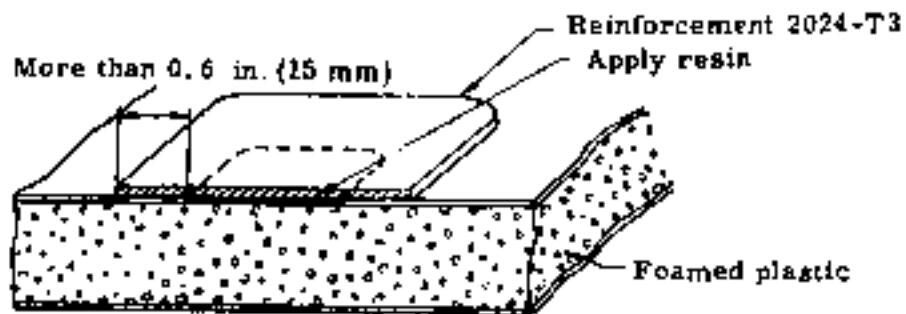

Fig 2-50
- (5) When peeling has taken place between the foamed-plastics core material and cloth (See Fig 2-50).